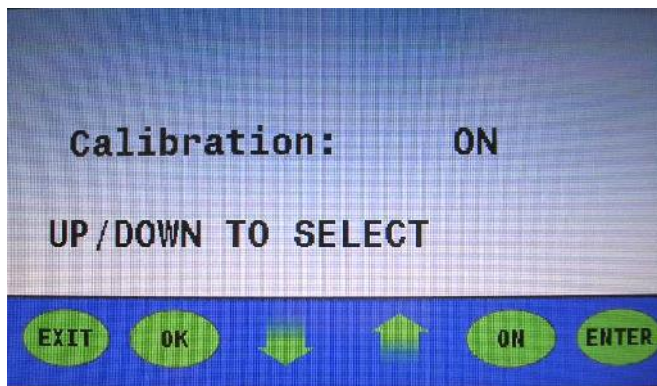

Figure 12
7. The display will read "CALIBRATION: ON" (**Figure 12**)